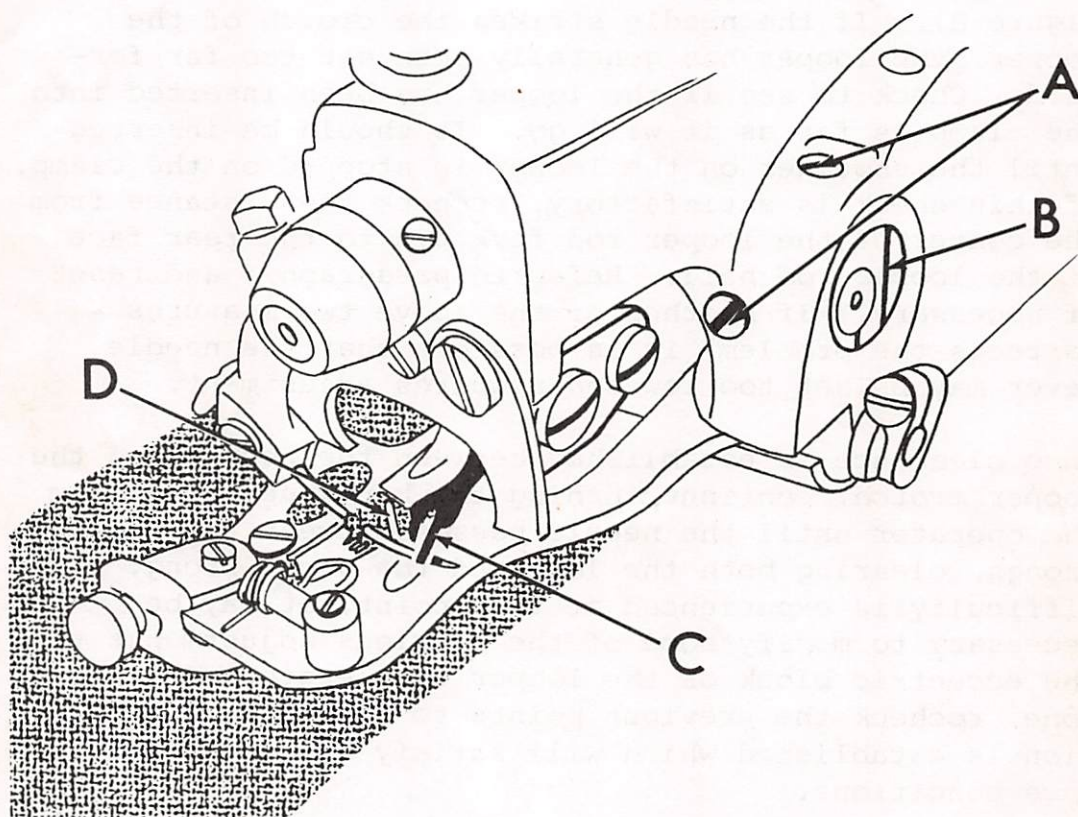

FIGURE 7
2. Any time a looper is moved or changed, recheck the looper timing and reset if necessary. Proper looper timing is absolutely essential for correct stitch formation. As described in detail below, a properly timed looper will pass over the needle in the correct position to pick up the loop, and also clear the chain-off pin, feeder, looper slot, and needle. The first check point for timing the looper is at the position where the looper picks the thread loop off the needle during the needle return stroke. Referring to Figure 7, (Point "C"), the long prong of the looper should pass over and just clear the scarf of the needle, approximately  $3/32$ " (2.4mm) behind the end of the needle eye. At the same time, the short prong of the looper should pass over the needle with about  $1/64$ " (.406mm) clearance, and must be so set that it also clears the chain-off pin (item "D" in Figure 7).
5. If, after completing the above adjustments, it is found that the looper is either too low or too high, it will be necessary to adjust the eccentric block. First loosen the two set screws (item "A" in Figure 7). Place a wide blade screwdriver in the slot of the eccentric block (item "B" in Figure 7) and, using a slight turning motion, raise or lower the looper as required. Once the proper height is established, check to see whether the looper must be moved to the left or to the right prior to re-tightening the eccentric block set screws. If such a movement is required, it may be obtained by lightly tapping the eccentric block in the correct direction with the handle of a screwdriver.